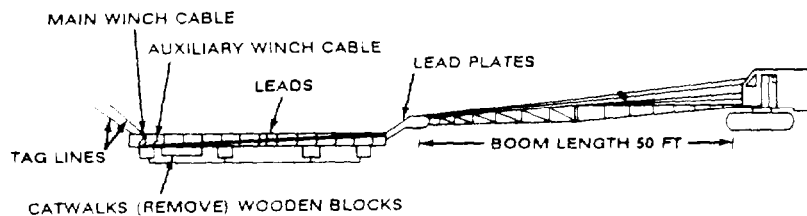

Figure 2-11.1. Connect Leads
1. Position the crane at the top of the leads, one boom length away (see figure 2-11.1). Lower the boom to approximately 3 ft. from the top of the leads.
2. Move the crane into position, connect the leads to the boom with the lead plates (see figure 2-11.1). Remove the catwalk.
3. Run the main and auxiliary winch cable to the bottom of the leads. Lay the hook blocks on the back of the leads (see figure 2-11.1). Attach the tag lines (rope) approximately 2 ft. from the bottom of the leads (see figure 2-11.1).